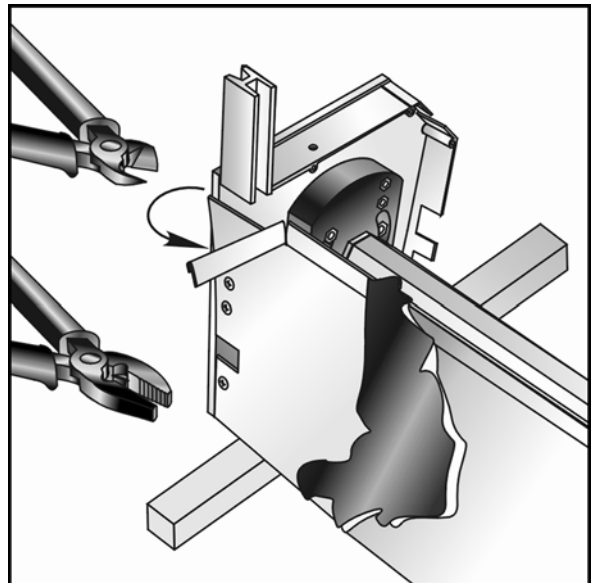

Fig. 2.12
8. Cut a raised edge of the back panel of shutter box in places of guide rails adjunction (*fig. 2.12*).